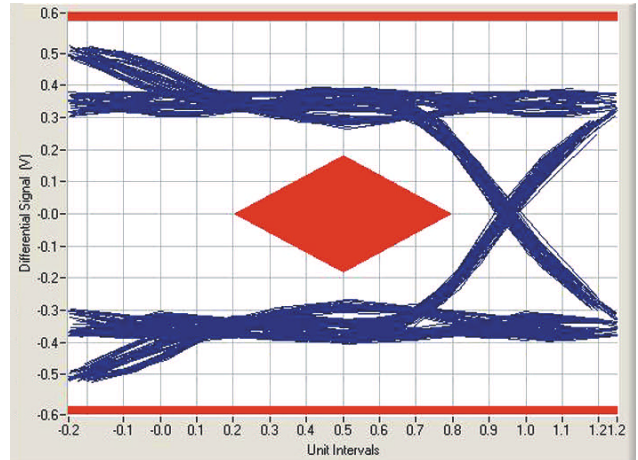

FIGURE 3. Nontransition bits must comply with eye-diagram specifications such as eye opening and amplitude.
PHY testing begins with the differential signal lanes on the PCIe bus. Transmitted (TX) bits come in two versions: transition bits (Figure 2) and nontransition bits (Figure 3). For each, you need to analyze data streams by using eye diagrams to measure their amplitude and jitter.